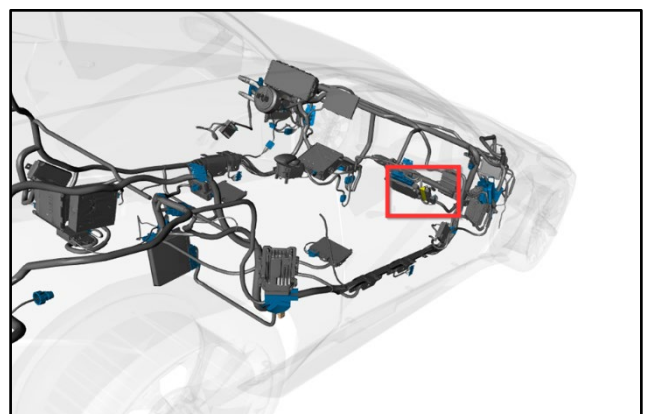

Figure 26
9. **HU CAN** – This header is in the instrument panel next to the DRVU (refer to Figure 26).